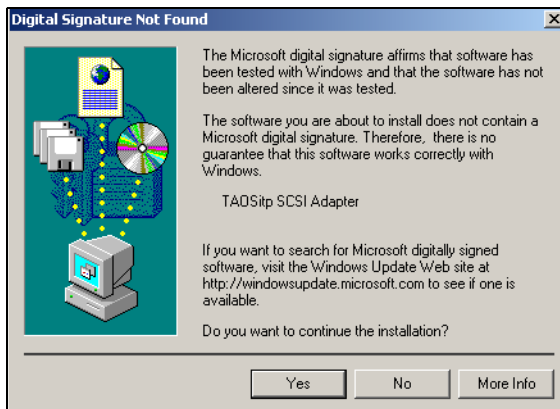

Figure 7-32 The Digital Signature Not Found dialog box, click Yes.
32. When The Digital Signature Not Found dialog box appears, click **Yes** (Figure 7-32).